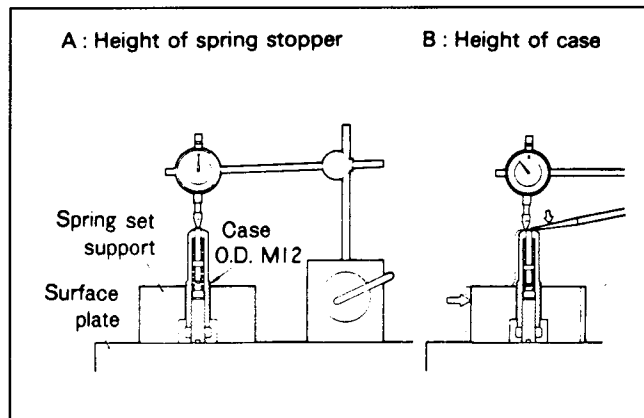

Figure 55
2. To measure the projection, keep the torque spring set in a vertical position as shown in Figure 55. Put the dial indicator probe against the center of the spring stopper face. Use a sensitive dial indicator that will not compress the torque spring when the measuring probe is against the spring stopper end.
3. Measure the difference in height between the spring case and spring stopper (Fig. 55). Make the measurement three times to confirm accurate measurement. Adjust the projection as necessary by turning the adjusting screw.